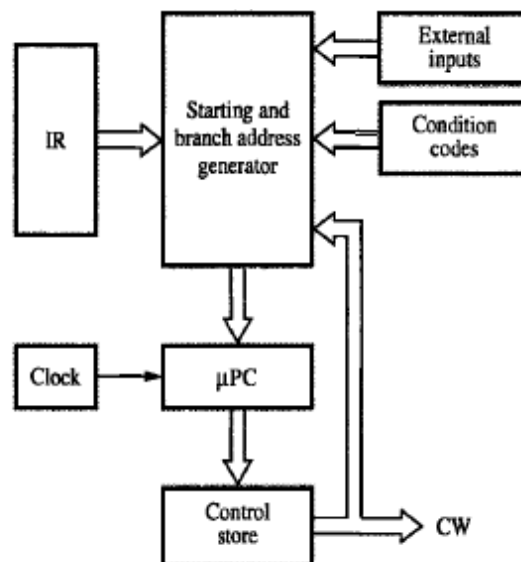

Figure 7.18 Organization of the control unit to allow conditional branching in the microprogram.
- **Starting and Branch Address Generator Block** loads a new address into μ PC when a microinstruction instructs it to do so (Figure 7.18).